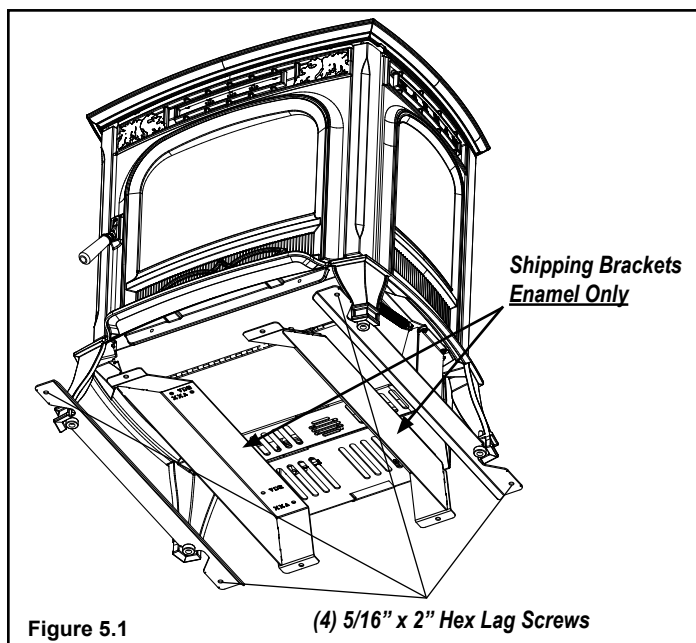

Figure 5.1
To free the stove from the skid support you must remove the (4) 1/4-20 x 5/8" screws located within the brackets. Figure 5.1. (2) 1/4-20 x 5/8" are located just inside the door under the ash pan. (2) 1/4-20 x 5/8" are located at the back of the unit behind the rear cover panels. See section B.